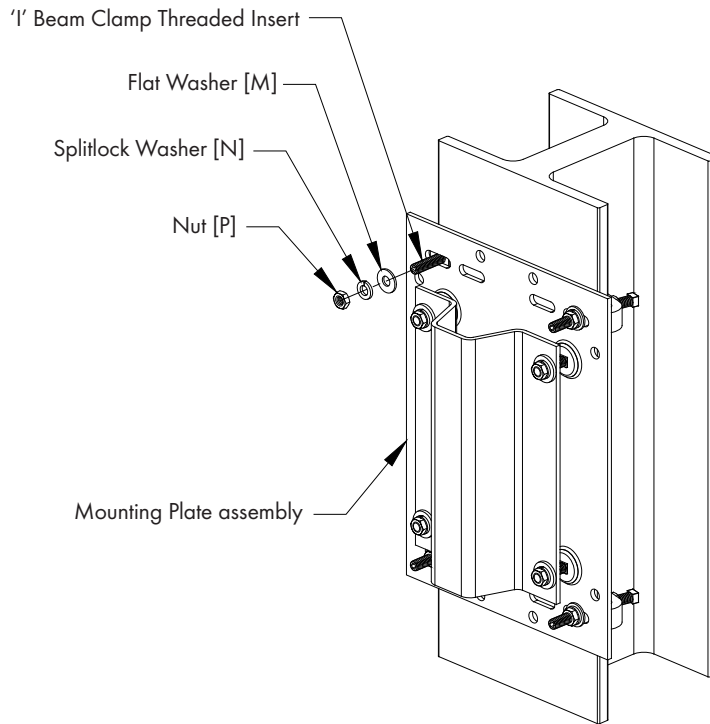

Figure 5
Place Mounting Plate assembly on 'I' Beam Clamp Threaded Inserts and fasten in place using (4) Flat Washers [M], Splitlock Washers [N] and Nuts [P]. See Figure 5. Proceed to Step 8.